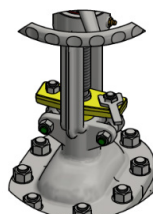

Figure D.2.26 – Stem packing gland tightening
- The gate-stem packing should be the subject of particular attention as it is important for the qualitative maintenance of tightness and shall be checked every 3 months. If leakage at the stem packing is detected, the gland nuts should be tightened slowly (Figure D.2.26). Torque for tightness gland nuts shown in Table D.2.10. When gland nuts are tightened, if the gland falls down more than twice the packing ring height, new packing rings should be added to the stem packing.